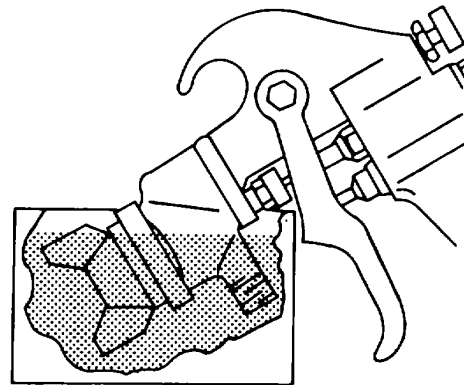

Figure 5-9. Soaking a Paint Gun
(3) *Soaking.* As shown in figure 5-9, place the nozzle and the fluid connection in thinner. The vessel used should be shallow enough to prevent the thinner from reaching the packing.